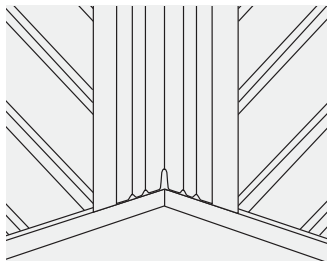

Fig. 70 – Fixing the valley trough
- 5 Fix dry valley trough by nailing outer welts to supporting timbers at 500mm max, centres, and overlapping lead (Code 4) apron by a minimum of 150-200mm (Fig. 70, page 82).